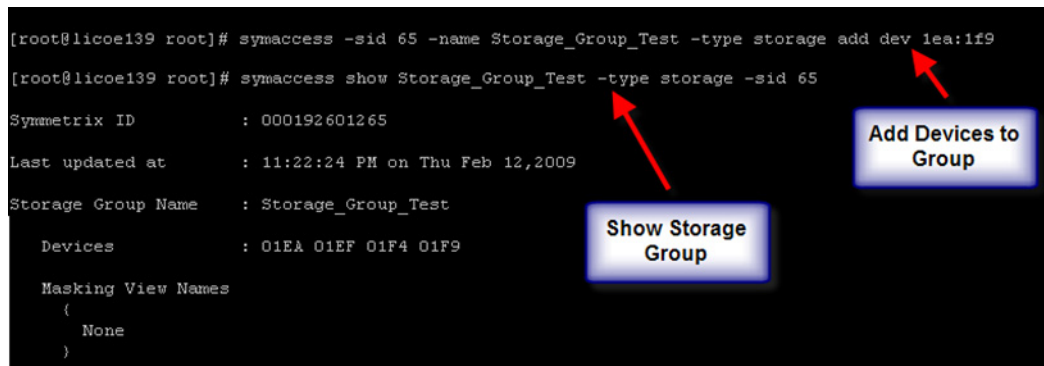

Figure 18. Adding devices to the storage group
5. Once the initiator group, port group, and storage group have been created, they can be populated with the appropriate members. The process to add devices 1EA through 1F9 to storage group Storage_Group_Test is shown in Figure 18. The symaccess command to add devices to a storage group automatically detects and adds only those devices that can be addressed by the host. This can be seen in Figure 18 where only four devices (1EA, 1EF, 1F4, and 1F9) in the range 1EA through 1F9 were added to the storage group.
Figure 18 was created with a non-GA version of Solutions Enabler. The GA version of Solutions Enabler 7.0 notifies the user when metavolume members and other specialized devices such as Virtual Provisioning™ data devices are not added to the storage group.